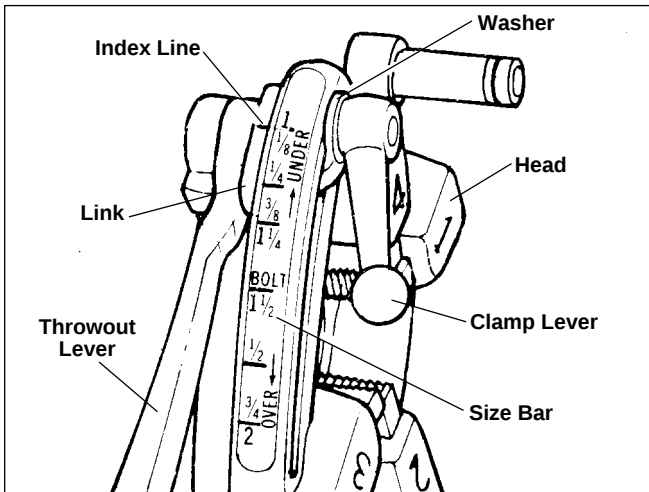

Figure 9 – Universal Quick-Opening Die Head
6. Quick-Opening 811A Die Head (Figure 9) – When thread is completed, rotate throwout lever to OPEN position, retracting dies.
The No. 811A Universal Die Head (Figure 9) for right hand threads requires four sets of dies to thread pipe ranging from $\frac{1}{8}$ " through 2". One set of dies is required for each of the following pipe size ranges: ($\frac{1}{8}$ " and $\frac{1}{4}$ " and $\frac{3}{8}$ " and $\frac{1}{2}$ " and $\frac{3}{4}$ " and 1" through 2"). Bolt threading requires a separate set of dies for each bolt size. No bolt dies are available for left hand universal die heads.